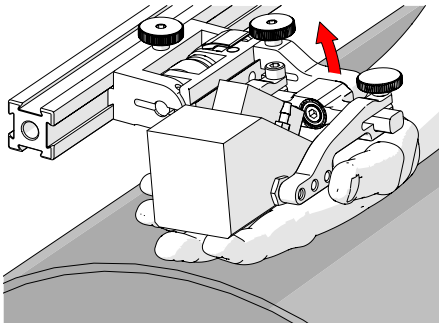

Fig. 137 - Lift to latched position
1. Ensure probe holder is in latched, upper position (Fig. 137). If the probe holder is already latched, it will only move within the slip joint adjustment range and have no spring tension.
1. Ensure the probe holder is in the upright latched position (Fig. 137).